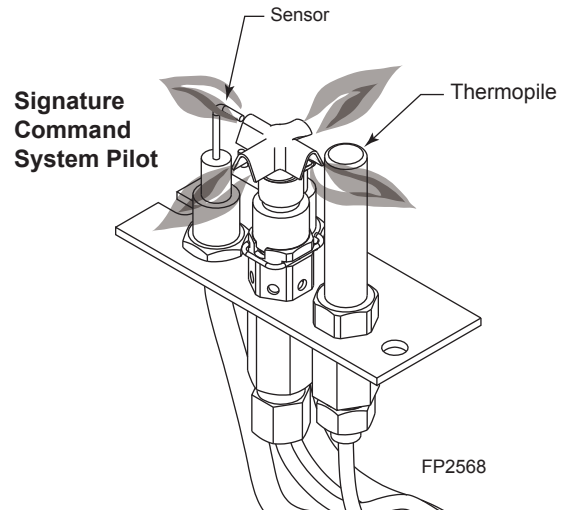

Figure 52 -
1. Check pilot flame. Flame should touch approximately 3/8" of the top of thermopile and touch top of thermocouple. *Figure 52* If not, contact dealer for service.